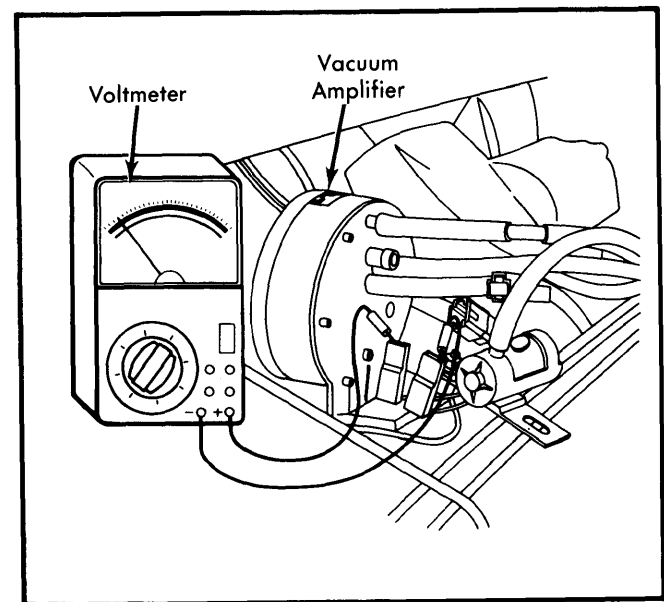

Fig. 3 Testing Calif. B2000 Engine Speed Switch
1) Warm engine to normal operating temperature. Connect voltmeter to electrical connectors as shown in Fig. 3. Increase engine speed to 1500 RPM, then slowly decrease engine speed. Record speed at which current flows to circuit.